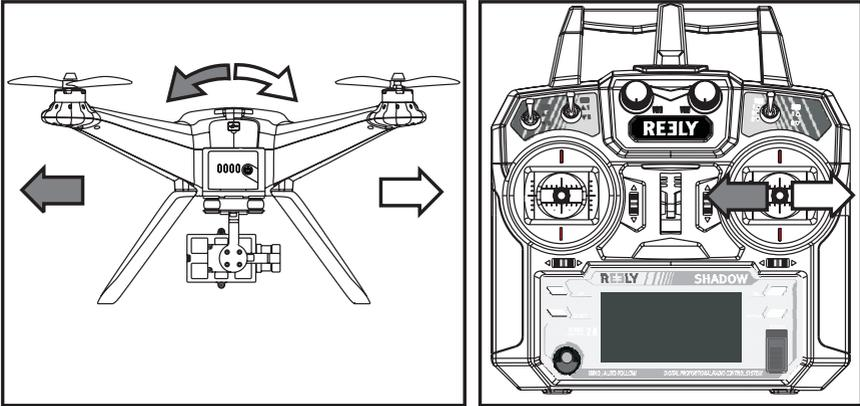

Figure 20
The roll function allows you to move your quadcopter sideways to the right and to the left (see figure 20). Use the right control stick for control (also see figure 7, item 6).